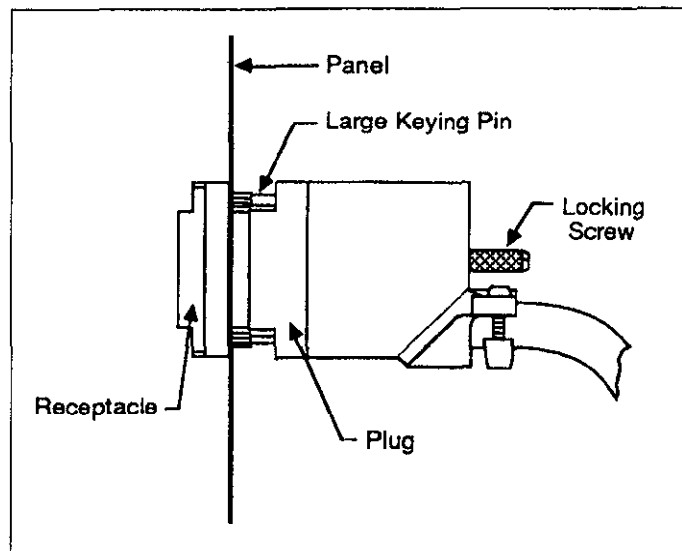

Figure 2-9. Connecting Plug to Receptacle
2. Place the plug of the cable on the appropriate "rack and panel" receptacle such that the large diameter keying pin of the plug aligns with the large keyway of the receptacle (see Figure 2-9).